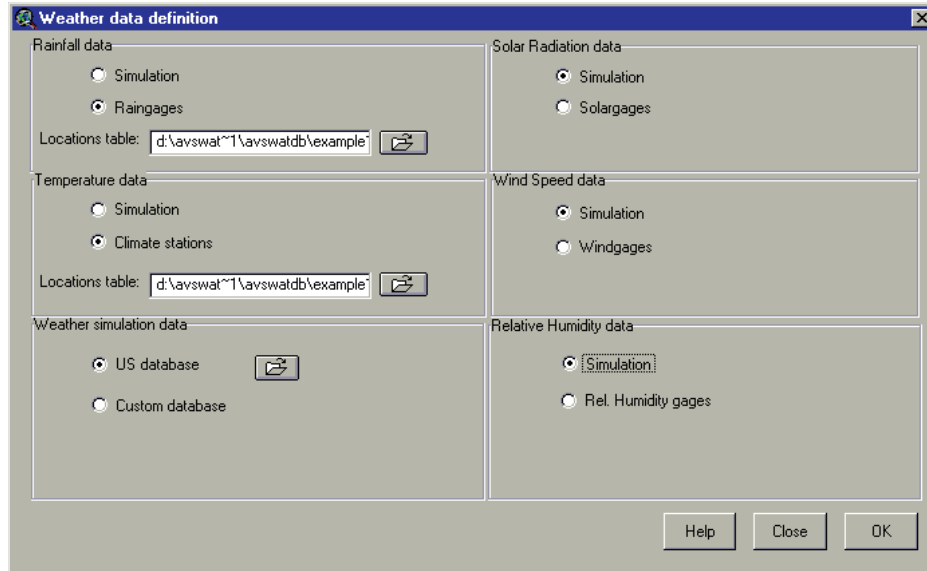

Figure 7.8
3. Once all weather data is specified and station locations are loaded, an **OK** button will appear in the lower right corner of the *Weather Data Definition* dialog box (Figure 7.8).